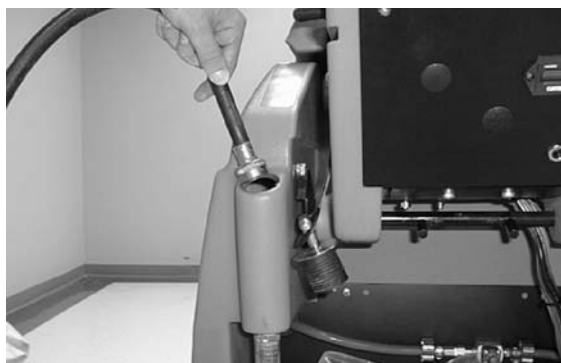

FIG. 8
3. Twist off fill-port plug and fill solution tank with clean water, 60°C (140°F) maximum temperature (Figure 8). The fill-port tube shows water level. Solution tank capacity is 20 gallons.